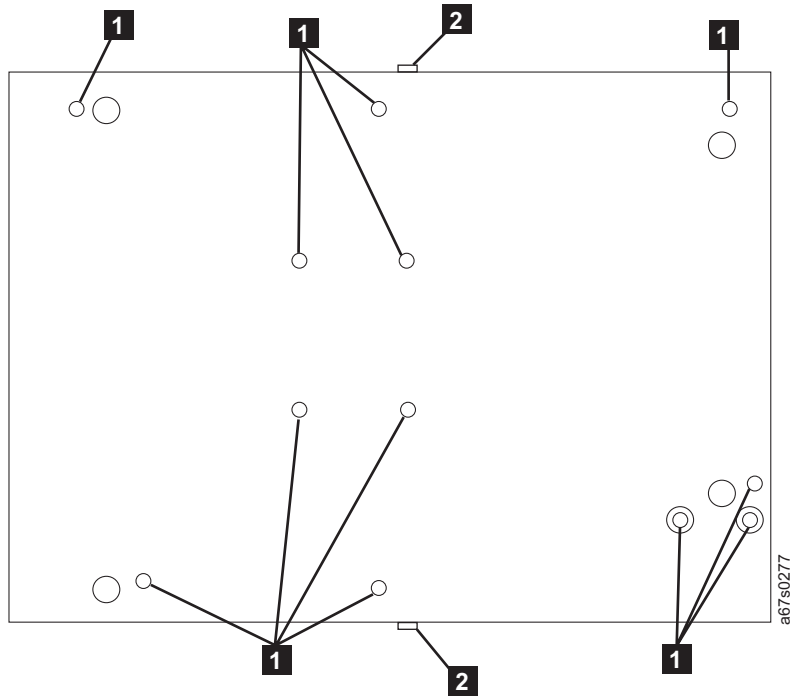

Figure 159. Location of screws on bottom cover for drive removal
- c. Remove the 12 screws from the bottom cover (**1** in Figure 159).
- c. Remove the 12 screws from the bottom cover (refer to **1** in Figure 159 on page 272).